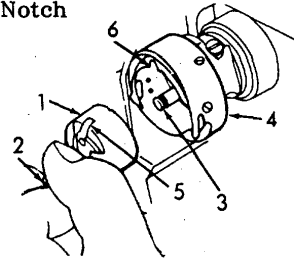

Figure 2-30. Bobbin Case, Installation.
- (3) Refer to Figure 2-30. Hold the threaded bobbin case (1) with the latch (2) out so the bobbin will not drop out of the case.
- (4) Place the bobbin case on the center stud (3) of the rotary-sewing hook so that the position finger (5) on the bobbin case is opposite the notch (6) at the top of the rotary- sewing hook (4).